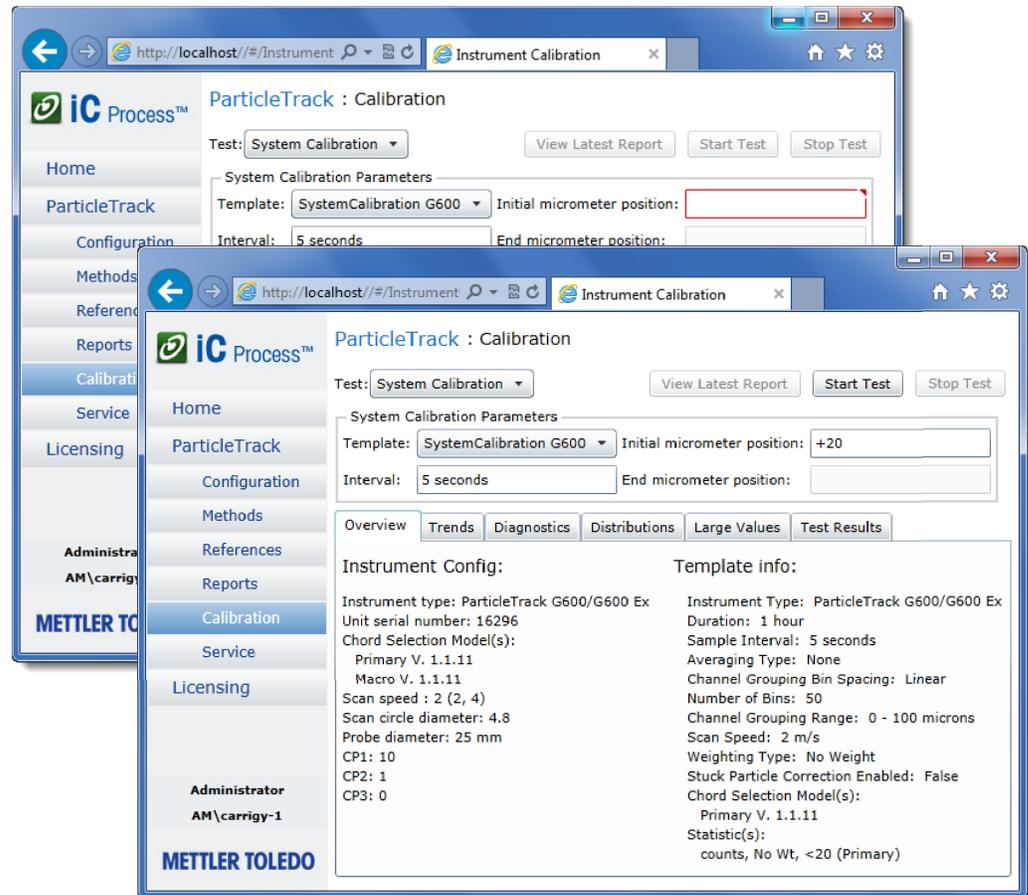

Figure 2—System Calibration (required parameter)
4. Complete the required **Initial micrometer position** entry (for example +20) identified by the red border in **Figure 2**.